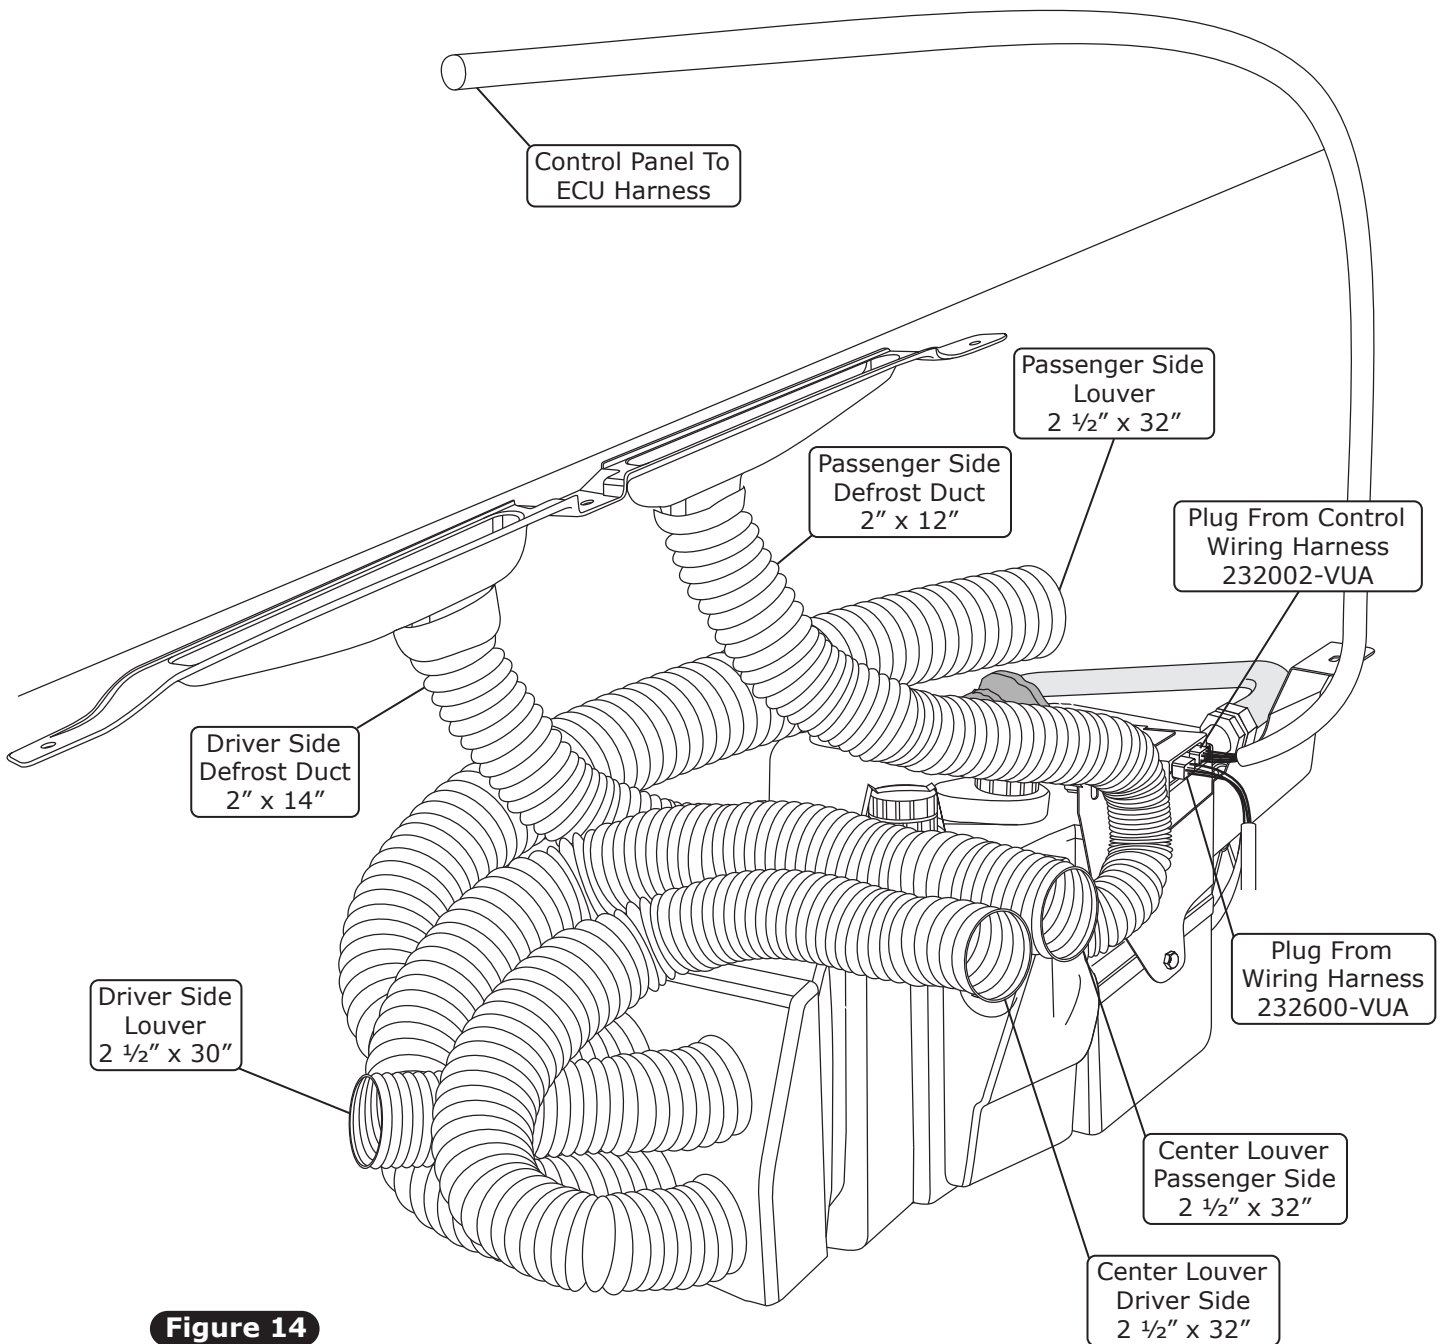

Figure 14
1. Install the duct hoses as shown in Figure 14, Page 15.
4. Plug the wiring harnesses into the ECU module on the sub case as shown in Figure 14, Page 15.